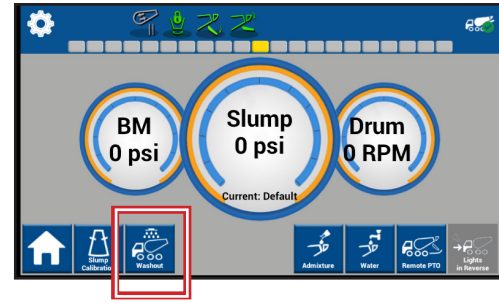

Figure 115
3. Select “Washout” (Figure 115).